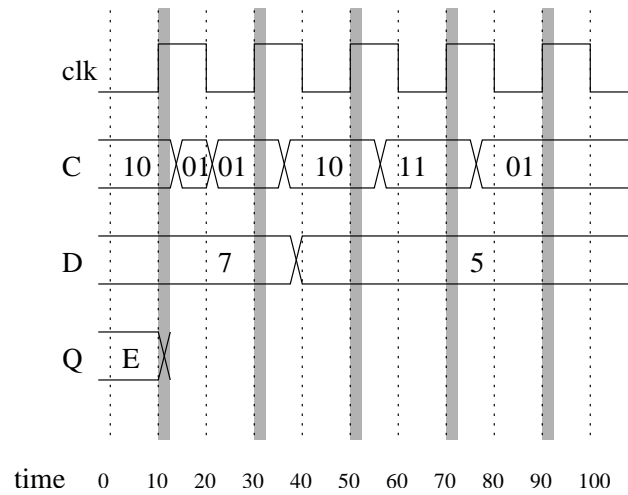

Figure 6.1: The timing diagram for a 4-bit arithmetic shift register in problem 11.
11. (5 pts.) Complete the timing diagram in Figure 6.1 for a 4-bit arithmetic shift register. Use the control setting from the truth table on page ??.